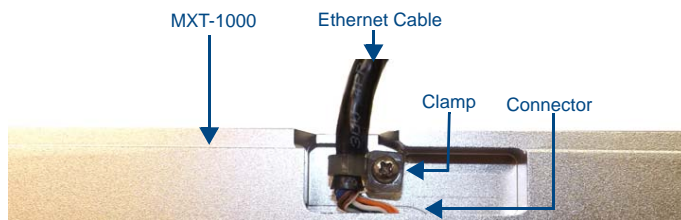

FIG. 4 Bottom of the MXT-700
2. Remove the clamp holding the Ethernet cable (FIG. 4) until the Ethernet cable moves freely.